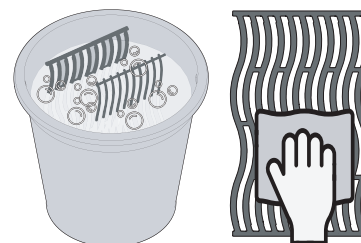

Fig. 3
- Wash grids by hand with water and mild dish soap to remove any residue from the manufacturing process. **DO NOT** wash in a dishwasher. (Fig. 3)